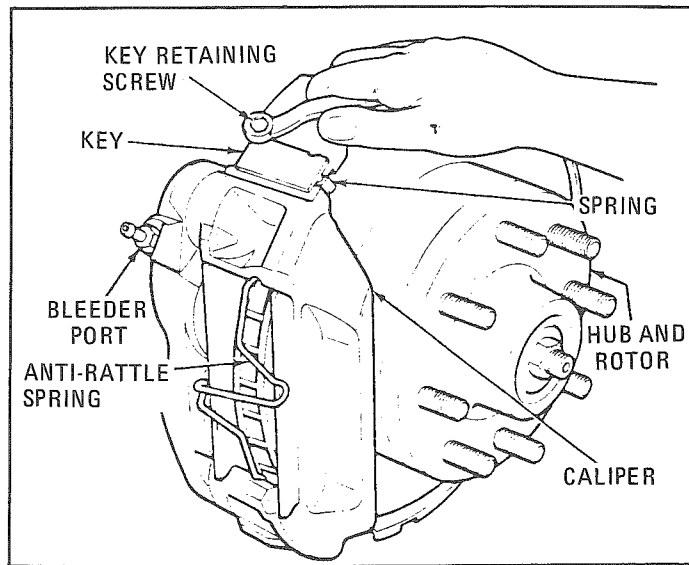

Figure 155 – Removing Key Retaining Screw
3. Remove the key retaining screw (see figure 155).